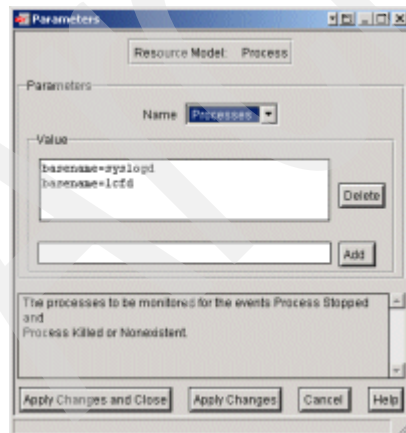

Figure 9-83 Parameters window
4. Select **Parameters**. The Parameters window opens as shown in Figure 9-83.